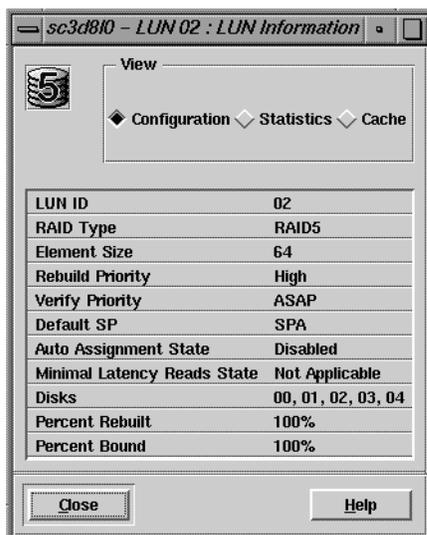

Figure 4-5 LUN Information Window: Configuration Information
The LUN Information window displays configuration, statistics, or cache information. When you open the window, it displays LUN configuration information, as shown in Figure 4-5.
3. In the Array Configuration window, double-click the LUN you want to examine. Alternatively, select multiple LUNs and choose LUN > Display Information > Configuration. The LUN Information window opens, displaying LUN configuration information, as shown in Figure 4-5.
To display LUN configuration information, click the leftmost radio button in the View area of the LUN Information window, if necessary. This information is displayed when you first open the LUN Information window; see Figure 4-5 for an example.